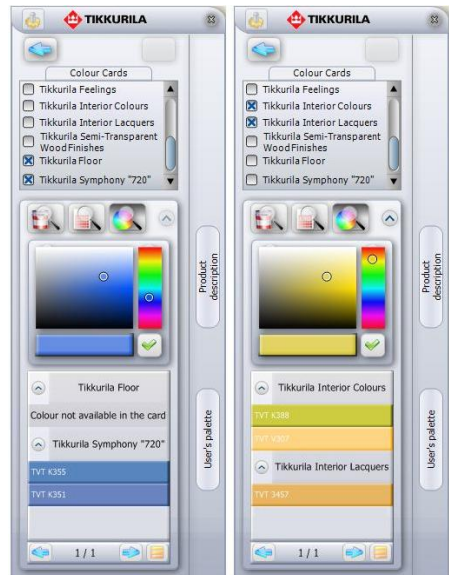

Fig. 234 - the results of Search by the colour procedure
When the **Search by the colour** option is chosen, in the part of the dialog box below the three icons determining the type of selection, the square colour palette will appear. In this palette the colour with the wanted shade and intensity should be indicated, in the same way as it has been described in subchapter 3 (Fig. 234).
- In each **Card** there may be a few similar colours available – they will all be listed (Fig. 234);